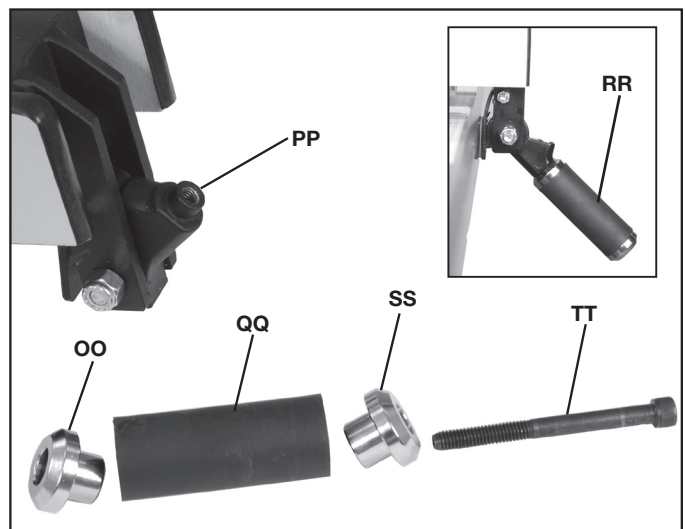

FIG. 19
1. Place fence clamp handle end cap (OO) Fig. 19 on post (PP). Then place fence clamp handle body (QQ) on end cap (OO) and place other end cap (SS) on body (QQ).
2. Place fence clamp handle screw (TT) into end cap (SS) all the way down and tighten into post (PP).
3. Finished handle should look like (RR).